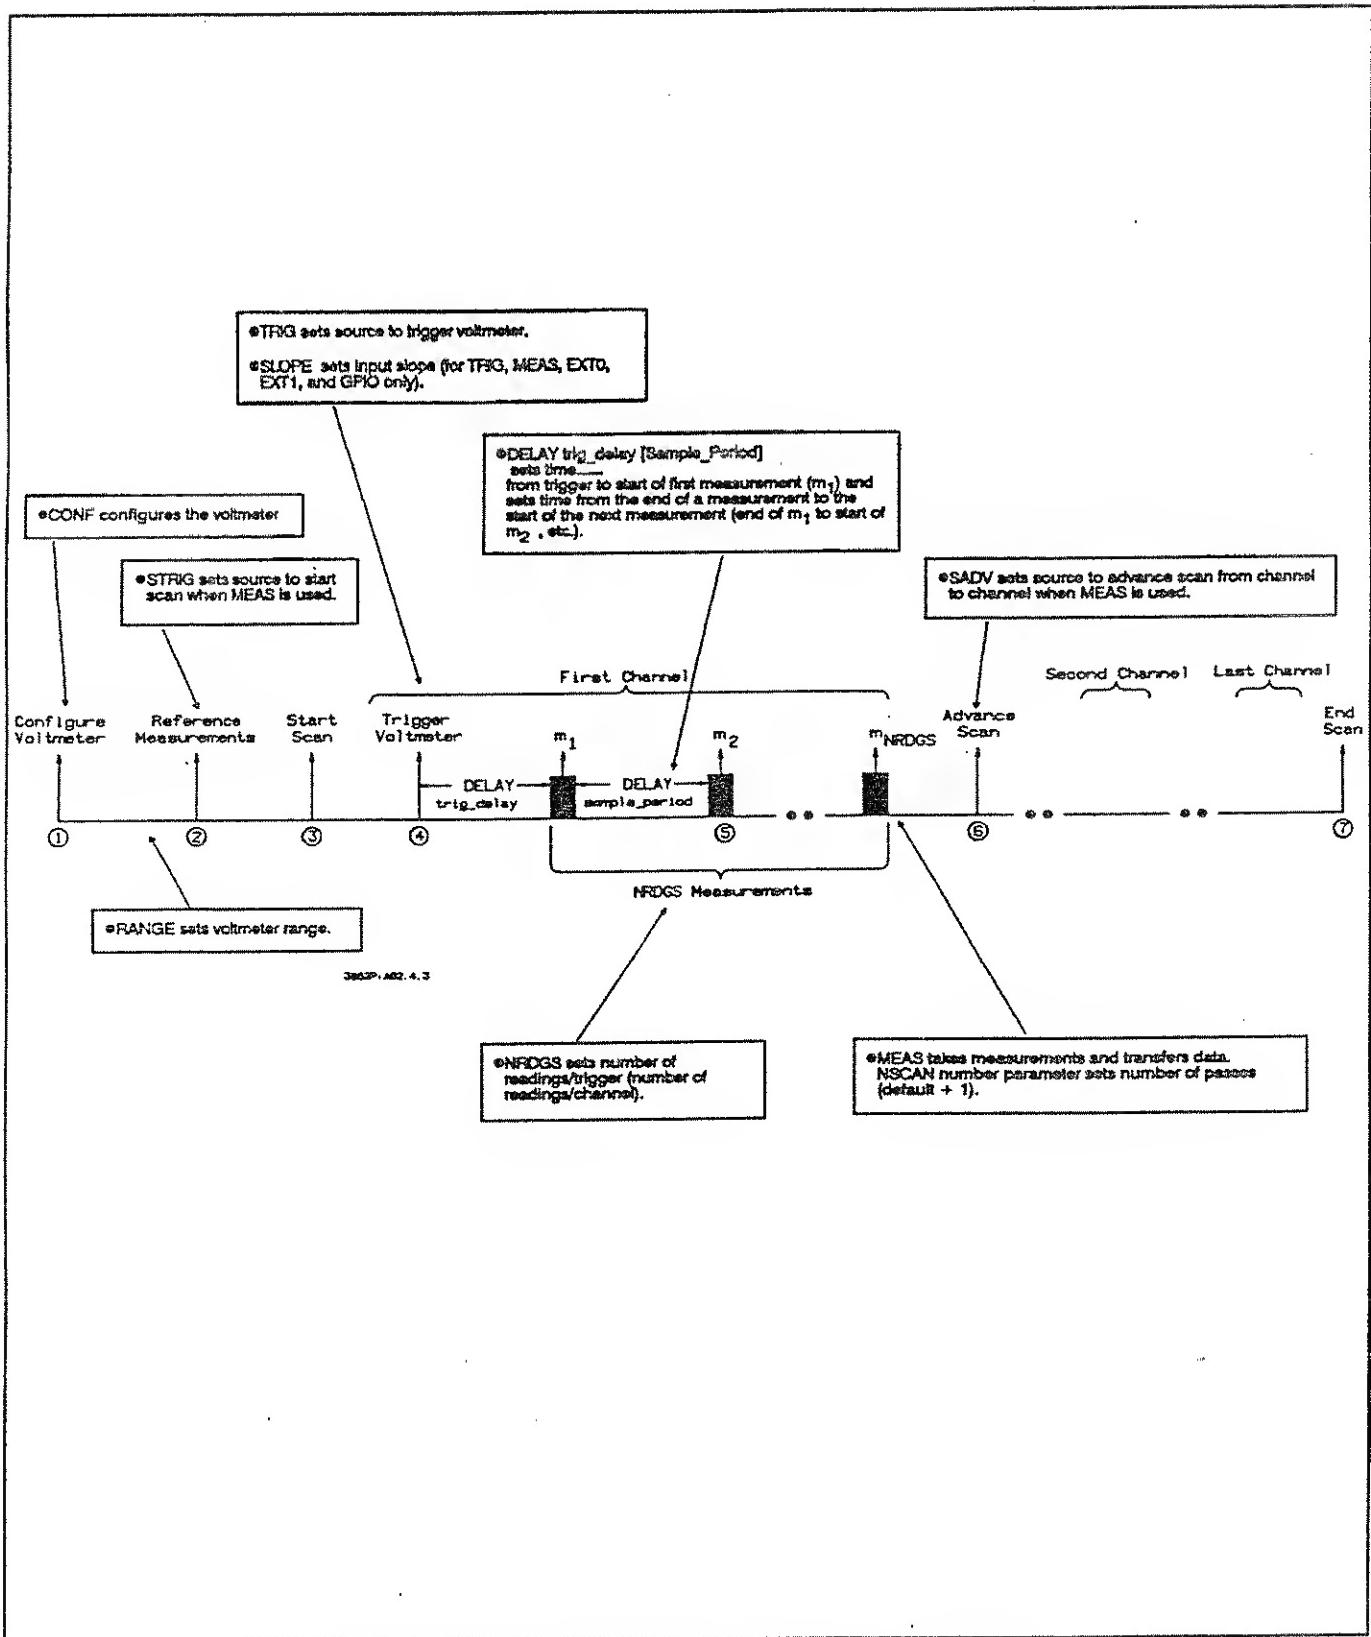

Figure 4-3. CONF and MEAS (System Mode) Operation
Figure 4-3 shows voltmeter operation when CONF and MEAS are used in System Mode and also shows how seven low-level commands (DELAY, NRDGS, RANGE, SADV, SLOPE, STRIG, and TRIG) can be used to modify voltmeter settings. (Note that CONF does not change the previous setting of SLOPE.) A summary of voltmeter operation and the related commands shown in Figure 4-3 follows.
As shown in Figure 4-3, since the voltmeter makes NRDGS *number* readings on each channel in the channel list, the total number of readings taken is the number of channels in the channel list times the number of readings per trigger times NSCAN.
**Setting Measurement Delays (DELAY)** CONF sets a 1 msec delay from the trigger to the first measurement on each channel and sets a 10  $\mu$ sec period between each measurement (such as m1 to m2 in Figure 4-3). For System Mode (only) both the delay and the sample period can be changed with the DELAY command.
For example, DELAY 0.01,1 sets a 10 msec delay from the trigger to the first measurement, and sets a 1 second period from the start of a measurement to the start of the next measurement on the channel (such as m1 to m2 in Figure 4-3).